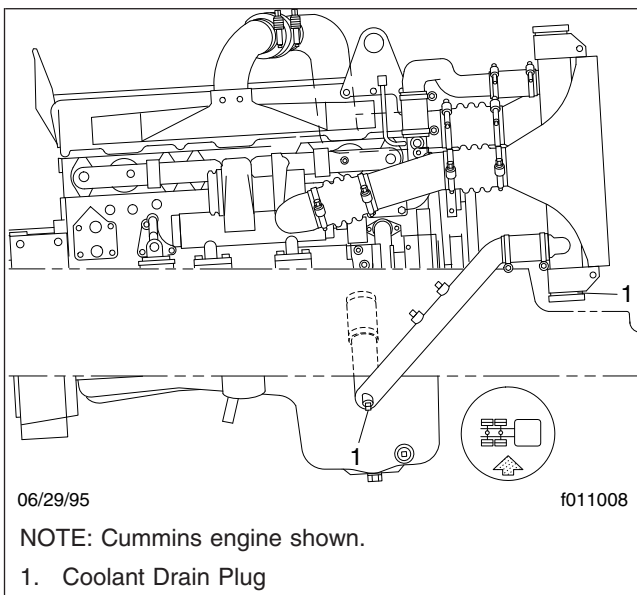

Fig. 2, Coolant Drain Plug Location
4. Remove the drain plugs at the radiator side tank and at the lower radiator outlet pipe elbow. See Fig. 2. Allow the coolant to drain.